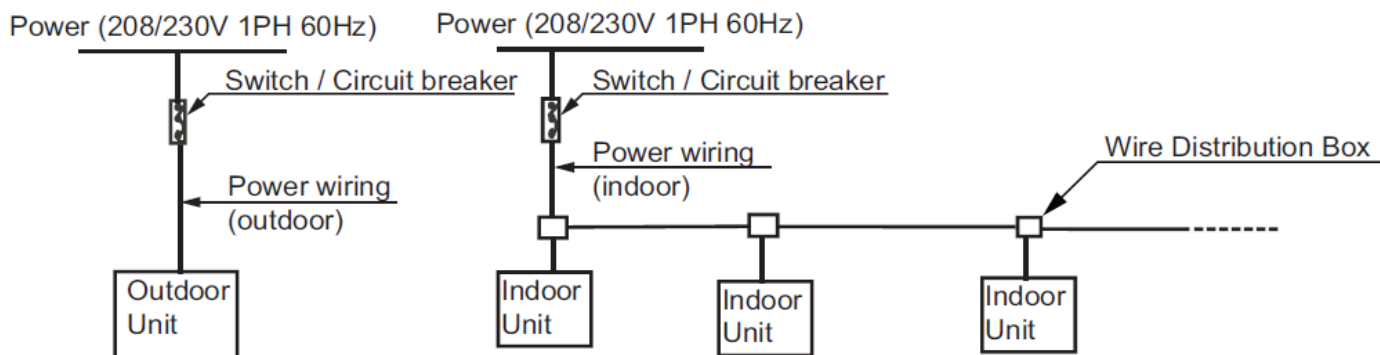

Fig. 15 — Power Wiring
- See Fig. 15 and 16 for power wiring.